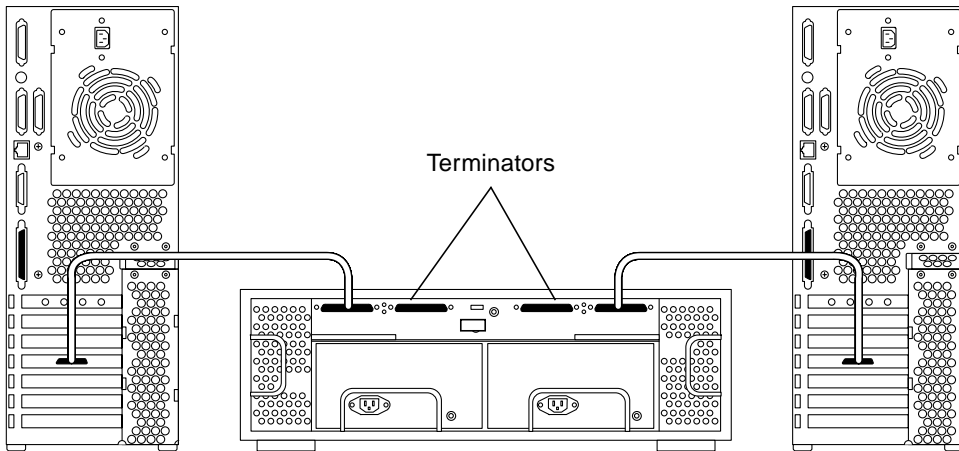

FIGURE 1-4 A Single Sun StorEdge D1000 Split Between Two Hosts
- A single unit split between two hosts, where each host has access to half the disks (FIGURE 1-4).